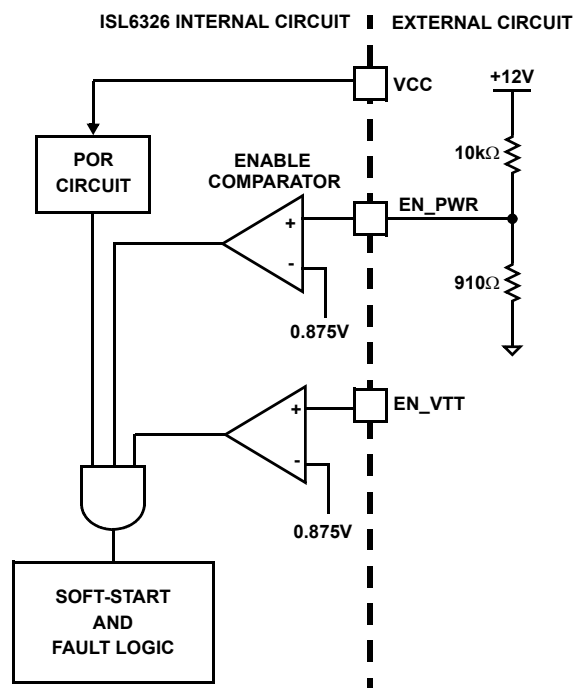

FIGURE 7. POWER SEQUENCING USING THRESHOLD-SENSITIVE ENABLE (EN) FUNCTION
2. The ISL6326 features an enable input (EN\_PWR) for power sequencing between the controller bias voltage and another voltage rail. The enable comparator holds the ISL6326 in shutdown until the voltage at EN\_PWR rises above 0.875V. The enable comparator has about 130mV of hysteresis to prevent bounce. It is important that the driver ICs reach their POR level before the ISL6326 becomes enabled. The schematic in Figure 7 demonstrates sequencing the ISL6326 with the ISL66xx family of Intersil MOSFET drivers, which require 12V bias.